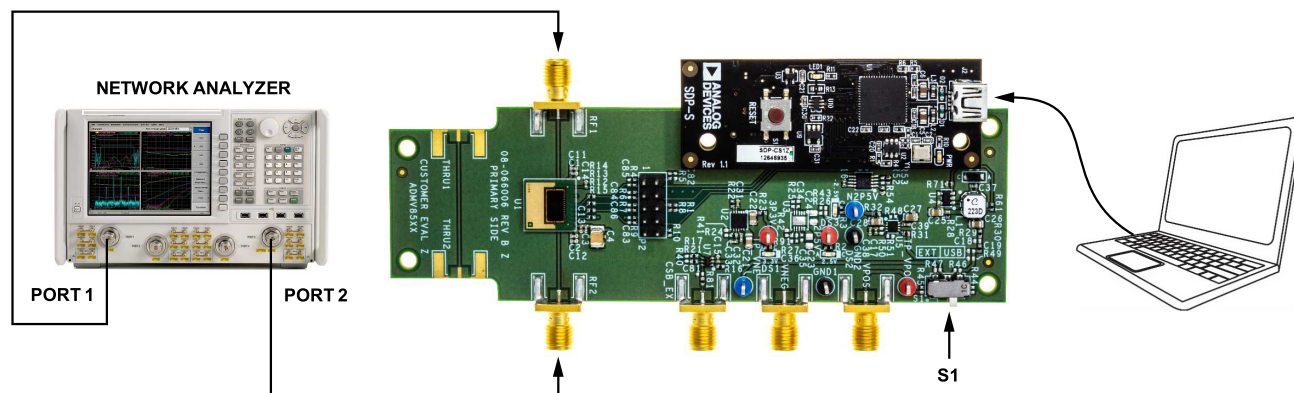

Figure 2. ADMV8526-EVALZ Lab Bench Setup
To power the ADMV8526-EVALZ using the 5 V USB supply, slide the S1 switch to select USB (as shown in Figure 2) to power the on-board negative voltage generator and LDO regulators. Alternatively, the ADMV8526-EVALZ can be powered externally by sliding the S1 switch to select EXT and then connecting the power supplies to
Figure 2 shows an example lab bench setup for the ADMV8526-EVALZ. To observe the filter response from the ADMV8526-EVALZ, connect the RF1 and RF2 ports to a network analyzer (or similar instrument). Typically, RF1 and RF2 are connected to Port 1 and Port 2 on the network analyzer, as shown in Figure 2.
1. Connect the RF1 and RF2 ports to a network analyzer (or a similar instrument). Typically, RF1 and RF2 are connected to Port 1 and Port 2 on the network analyzer, as shown in Figure 2.
3. On the ADMV8526-EVALZ, slide the S1 switch to select USB (as shown in Figure 2) to power the ADMV8526-EVALZ from the 5 V USB supply voltage from the PC via the SDP-S.